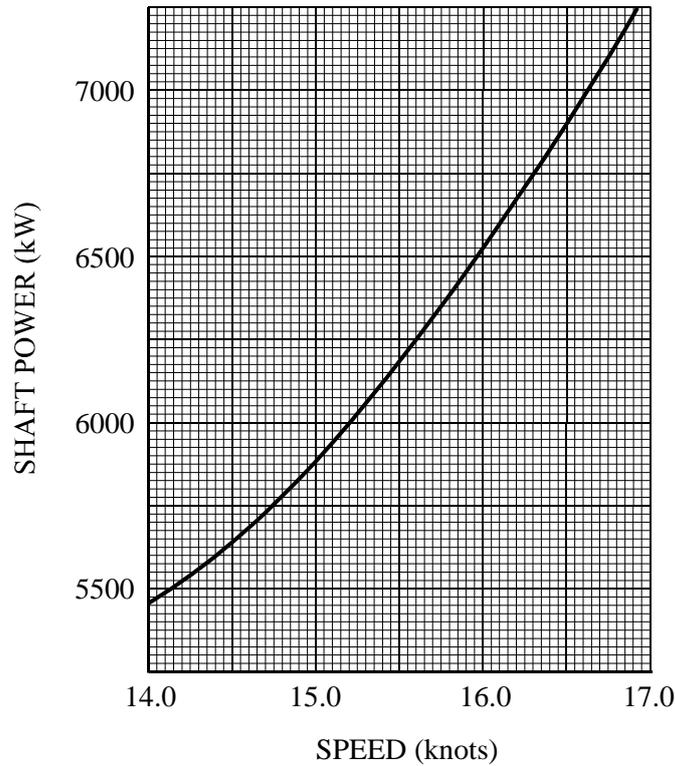

Fig Q5
5. Fig Q5 shows the results of progressive speed trials on a ship at a load displacement of 22350 tonne in sea water of density 1025 kg/m^3 with a wetted surface area of 4860 m^2 .